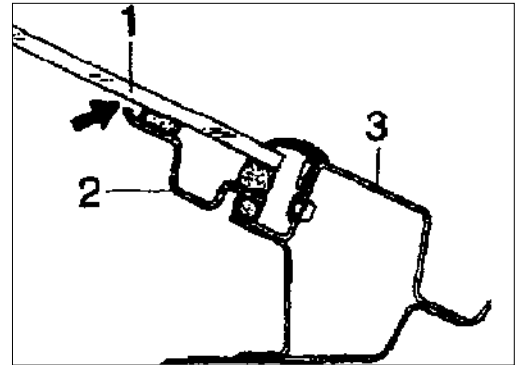

Figure 18
- Remove the rear wall panel. Check for clearance using a 2.0mm feeler gauge (Figure 18, arrow).